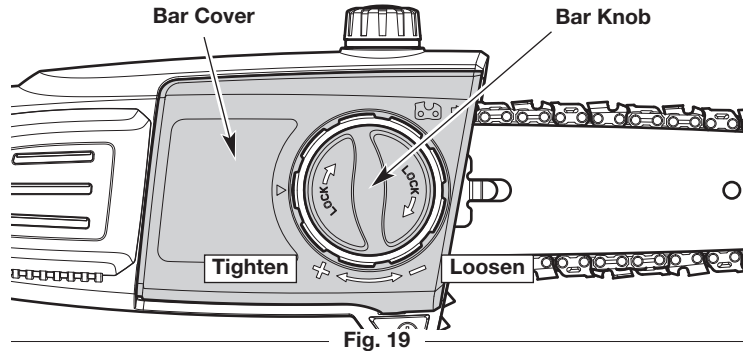
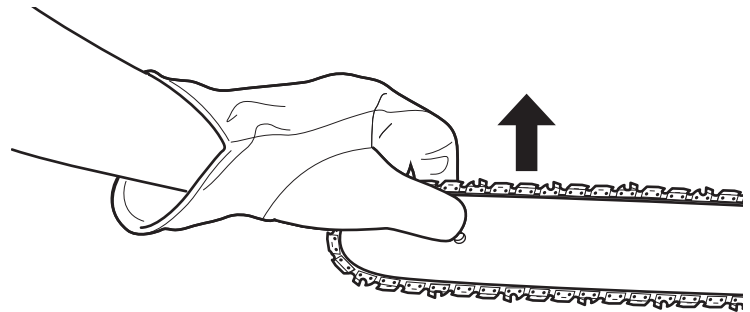
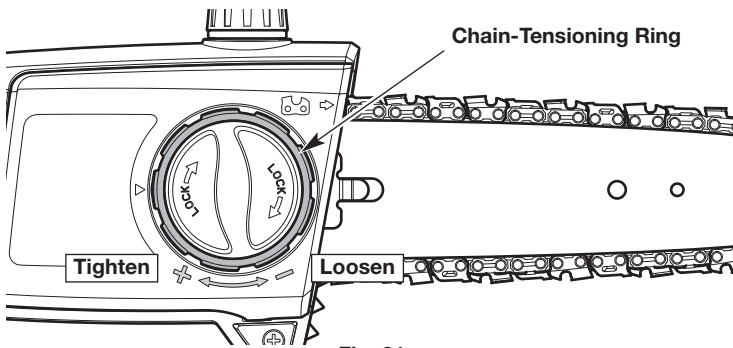
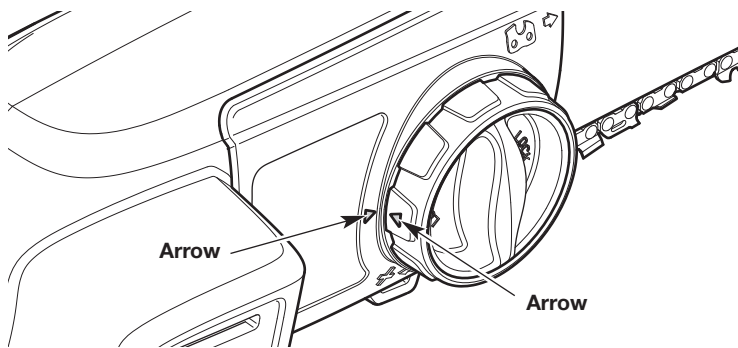

Fig. 19
Fig. 20
Fig. 21
Fig. 26
1. Turn the bar knob counterclockwise to slightly loosen the bar cover (Fig. 19). **DO NOT** remove the bar cover.
2. Hold the guide bar tip up (Fig. 20) and turn the chain-tensioning ring to adjust the tension (Fig. 21).
3. Continue to hold the guide bar tip up (Fig. 20). Turn the bar knob clockwise to securely tighten the bar cover (Fig. 19).
1. Turn the bar knob counterclockwise to loosen the bar cover (Fig. 19).
5. Turn the chain-tensioning ring (Fig. 21) until the arrow on the chain-tensioning ring aligns with the arrow on the bar cover (Fig. 26).
7. Turn the chain-tensioning ring (Fig. 21) clockwise until the bar cover is connected to the motor housing and the guide bar begins to move forward.
8. Turn the bar knob clockwise to tighten the bar cover (Fig. 19). **DO NOT** tighten the bar knob completely.
10. Hold the guide bar tip up (Fig. 20). Turn the bar knob clockwise to securely tighten the bar cover (Fig. 19).